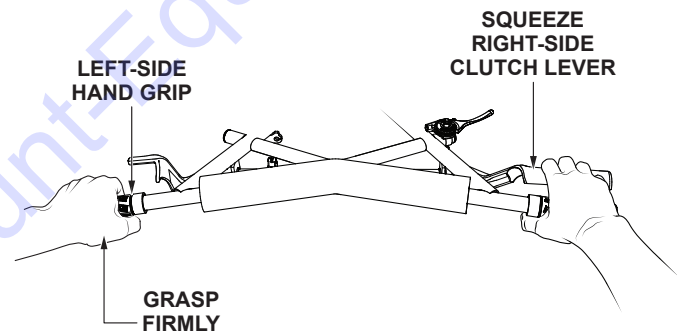

Figure 40. Engaging the Clutch
3. Firmly grasp the **left-side** handgrip, then **squeeze and hold the right-side** clutch lever (Figure 40) to engage the clutch.